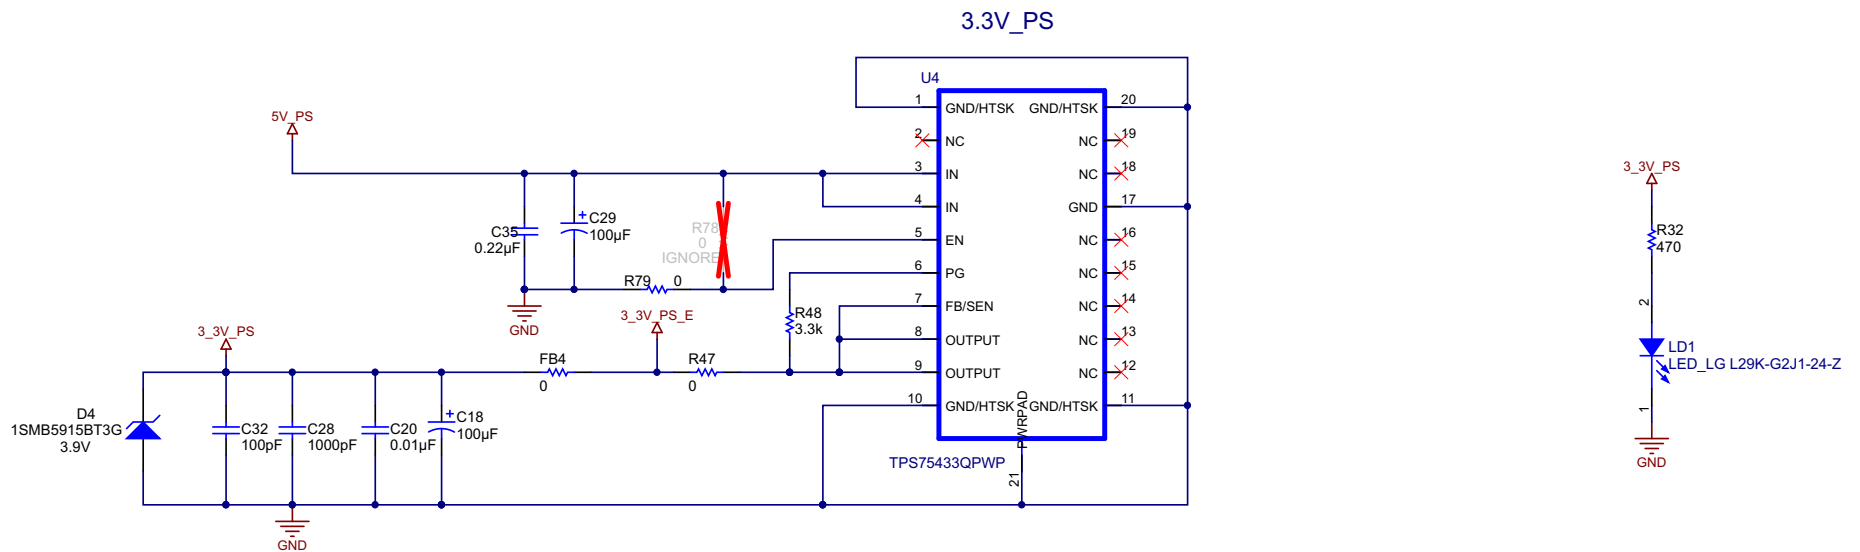

Figure 12. 3.3-V Power
2. By 3.3 V from the controller board as shown in Figure 12.